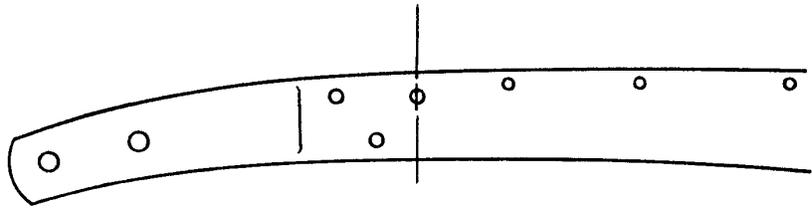

Figure 1
4. Mark the axle centerline. On the 1934 Ford it is located in line with the center of the rear upper fender bracket hole. Use the center of this hole to mark a line across the top of the frame rails. See Fig. 1.